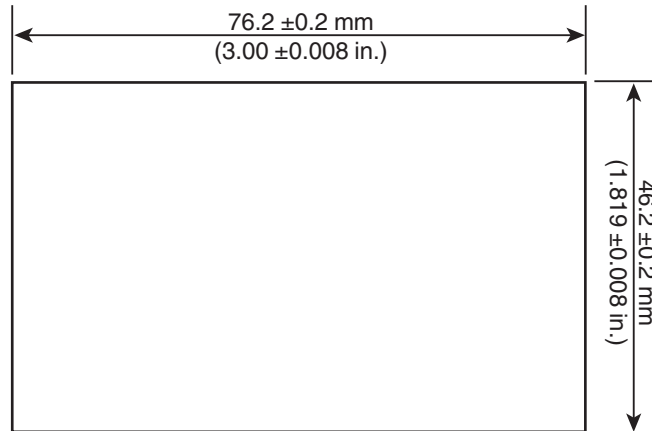

Figure 2-12 Cutout dimensions for panel mounting
2. Using an appropriate tool for the enclosure material, cut a $46.2 \times 76.2 \pm 0.2$ mm hole in the enclosure (see Figure 2-12). Remove any burrs or sharp edges using a file or appropriate tool.